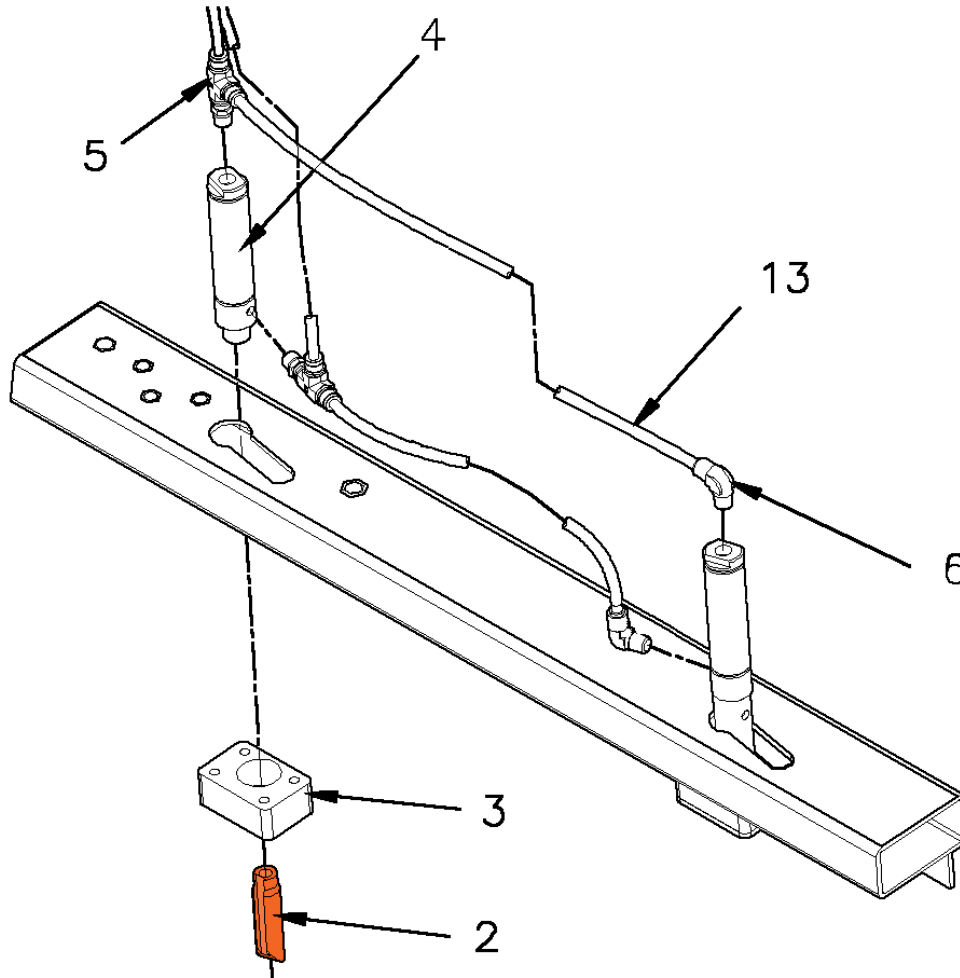

Figure 4: Latch assembly, pin and air supply.
- 4) The latches are located above the door (Figure 4) and are composed of air cylinders (4), receptacles (3) and treaded pins (2). There is one latch for each door pane.
- 5) Unplug hose (item 13 in Figure 4) and top fittings (items 5 and 6 in Figure 4).